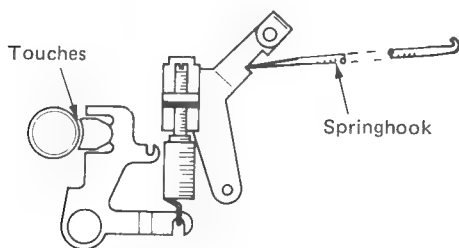

Figure 10
20. Position the carrier return latch assembly in place and with pusher end of springhook, push arm against carrier return spring and tighten setscrew (Figure 10).